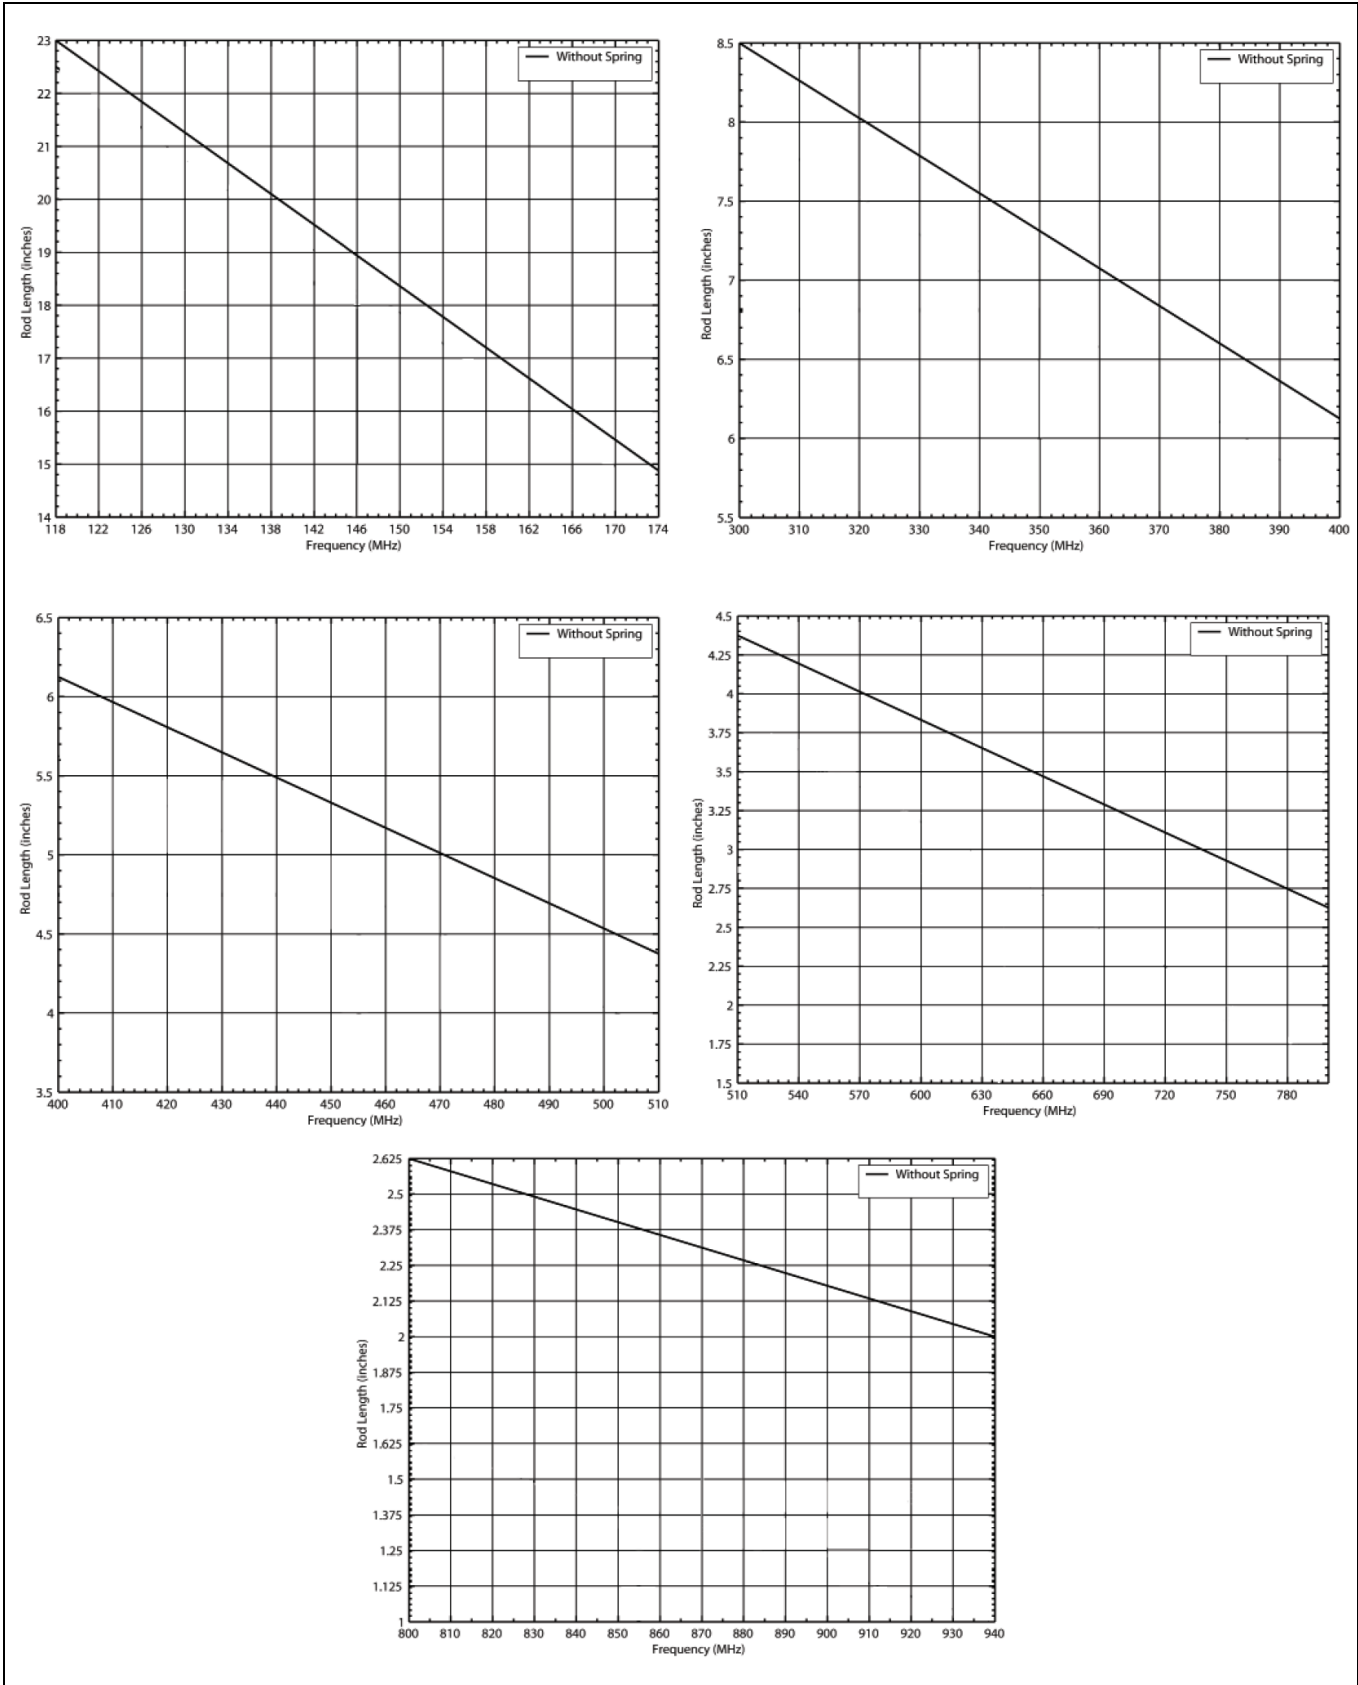

Figure 5-5: Cutting Charts for Antenna Element AN-225006-001
- Part number **AN-225006-001** (132 – 960 MHz, 0 dBd) - For length cutting information, see the charts in Figure 5-5 on page 44, and/or the instructions included with the element.